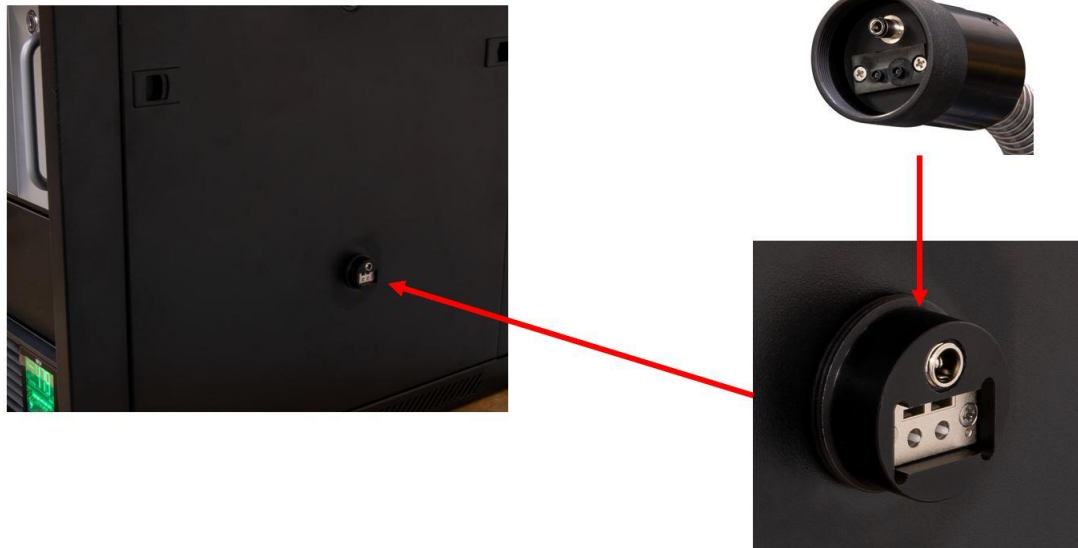

Figure 5-Attach Fiber and Power Cable to Rackmount Box
- (3) Once the cable is fed through the Insertion Poles, **Refer to Figure 5** to make sure the unit is powered **OFF**. **Refer to Figure 6** Attach the large connector for the Power & Fiber Cable connector on the right-side Rack Mount Computer Control Unit. “